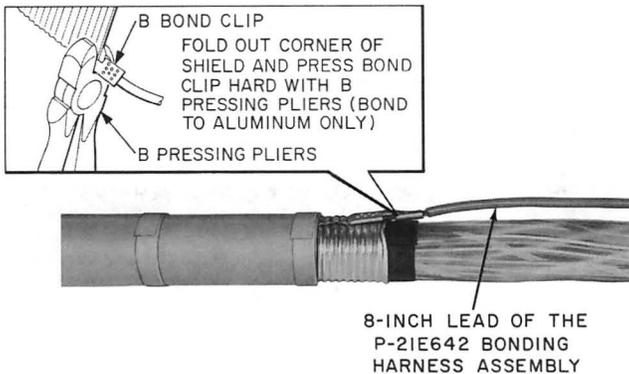

Fig. 6—Bonding Stub Cable Shield
5.05 Using B Pressing Pliers, attach the B Bond Clip of an 8-inch lead of the P-21E642 Bonding Harness Assembly to the aluminum shield (Fig. 6).